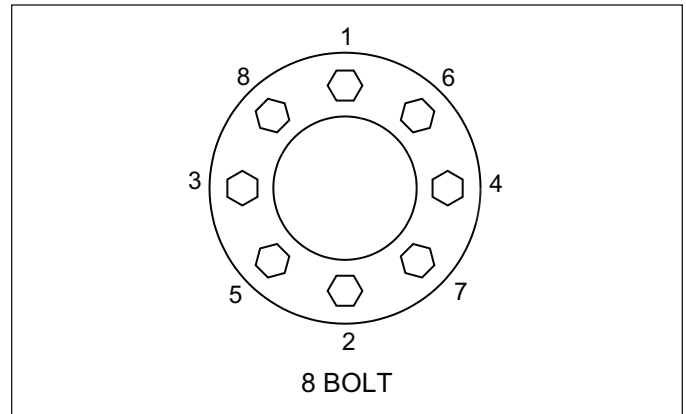

Figure 2-6: Stud Tightening Sequence
2. Re-Install the 5/8-18 Wheel Nuts and tighten to 50 ft-lbs using the sequence in Figure 2-6. Then tighten to full torque of 130-150 Ft-Lbs.